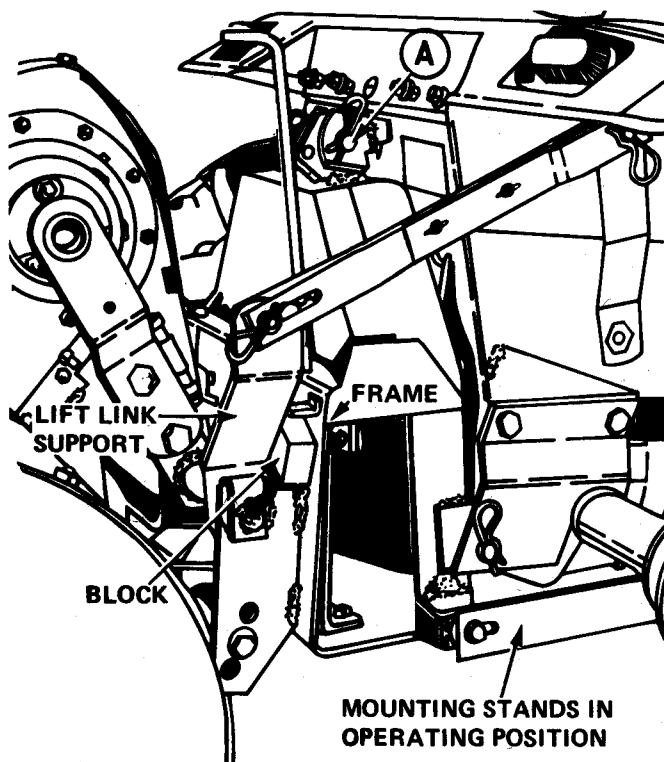

Figure 4
6. Place a small block of wood or similar object between the lift link support and the stop on the tiller frame, Figure 4. With the block used to aid in attaching the top of tiller mounting frame to the tractor, raise the tiller with the lift lever until the clevis pin can be installed at A, Figure 4. Secure clevis pin with a hairpin cotter as shown. Move the lift lever to the down position and remove the block used to help raise the attachment.
7. Rotate the mounting stands completely forward as shown in Figure 4 and engage the locking pins in the slots provided in the mounting stand brackets.
installed on the tractor, raise the tiller to the highest position with the lift lever. The lift link support should just clear the stop on the frame (approximately 1/16"). Refer to Figure 4. Support tiller securely. Loosen adjustment bolts. Lower the lift arms until the lift link can be adjusted the amount needed to set the proper clearance and tighten bolts securely.
2. Place a small block of wood or similar object between the lift link support and the stop on the tiller frame, Figure 4. With the block used to aid in removing the top of tiller mounting frame from the tractor, raise the tiller with the lift lever until the clevis pin can be removed at A, Figure 4. Remove clevis pin and hairpin cotter as shown. Move the lift lever to the down position and remove the block used to help raise the attachment.